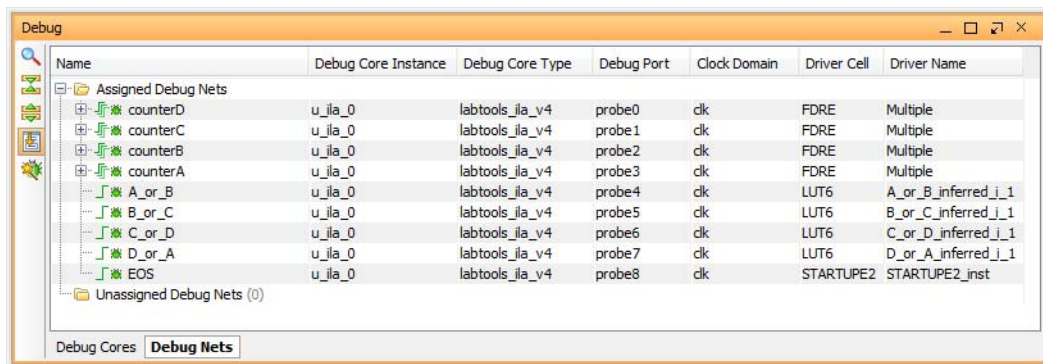

Figure 4-4: Assigned Debug Nets
- The debug nets are now assigned to the ILA debug core, as shown in Figure 4-4.